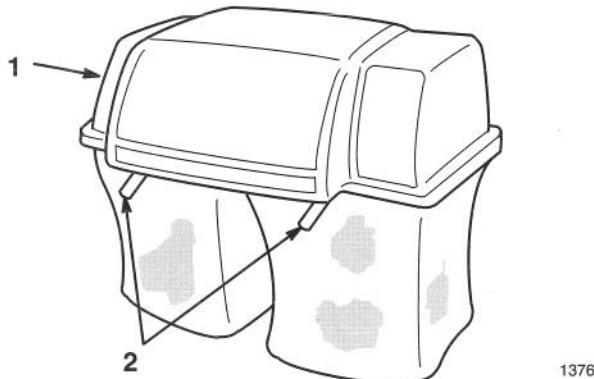

Figure 25
2. Raise the bagger top and remove the grass bags from the bag frame (Fig. 25).